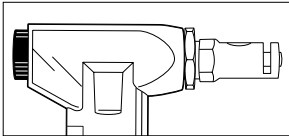

Figure 1
1. Figure 1 shows Air Nibbler cutter and die assembled correctly.